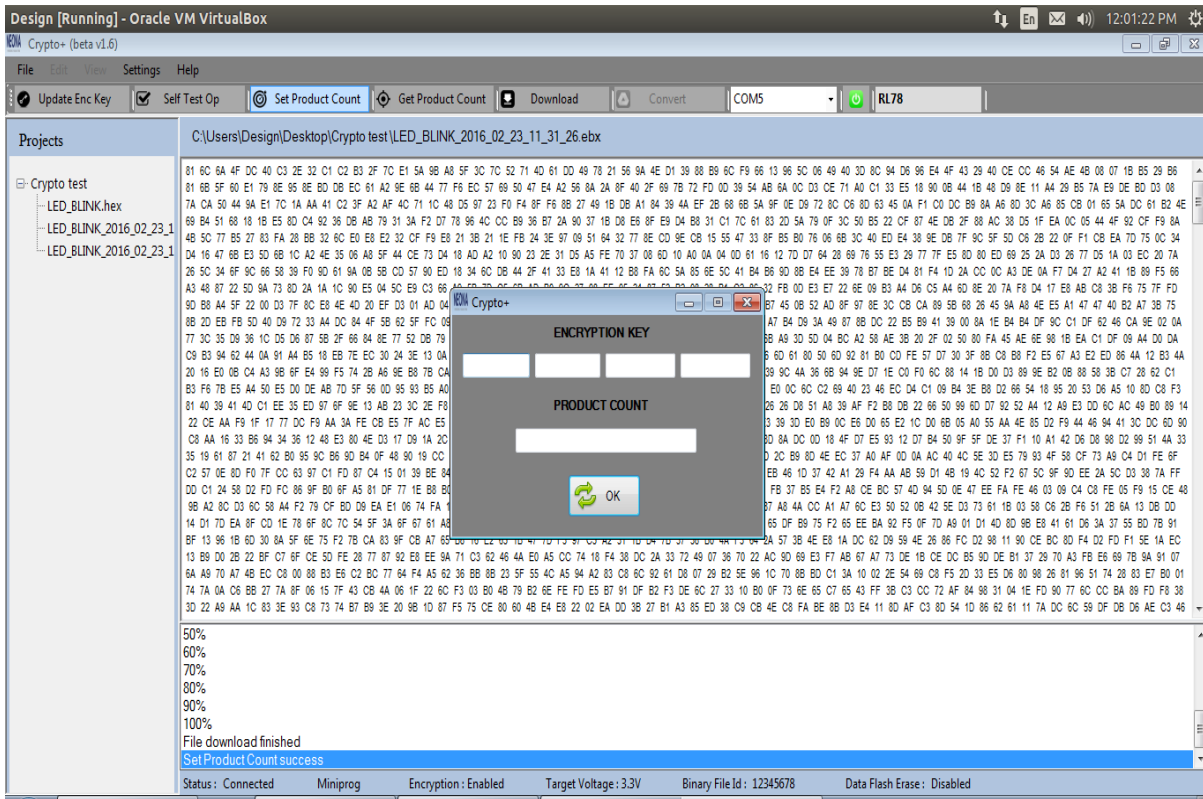

Figure 2.36
STEP 1: Click **Set Product Count**. A window asking the encryption key and product count will appear as shown in figure 2.36.